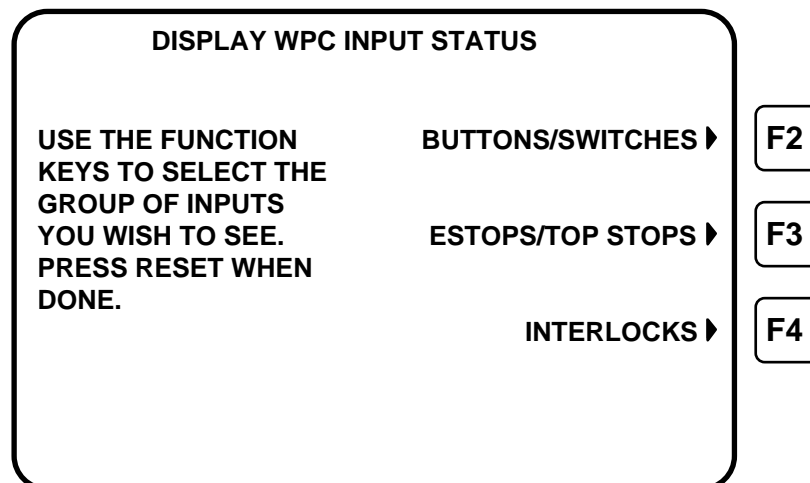

Figure 7-9. Display WPC Input Status menu
3. Select “Input Status.” The Display WPC Input Status display, Figure 7-9, appears. Select the type of input you want to see.